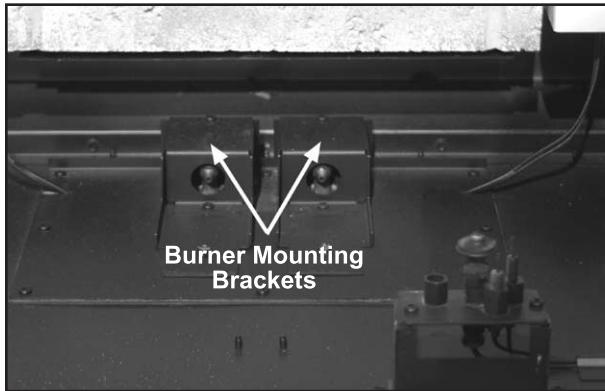
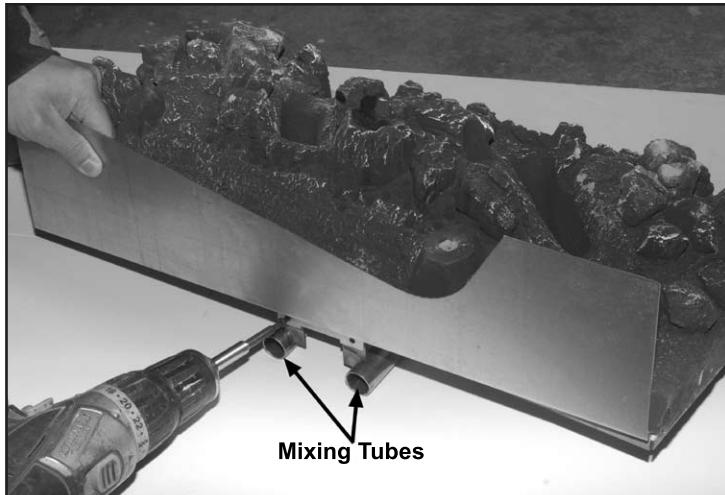
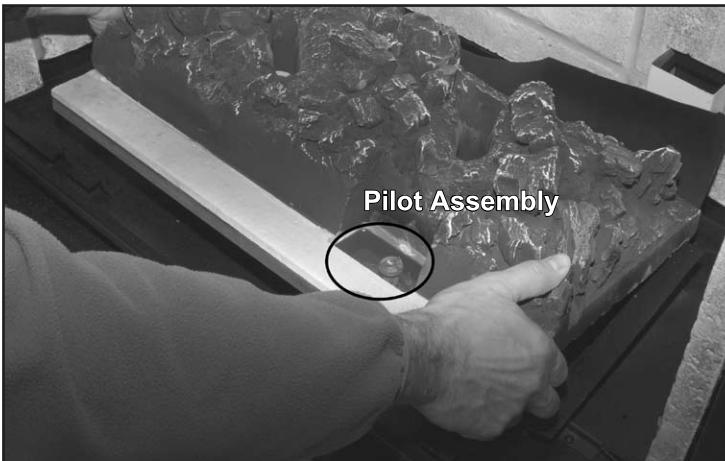
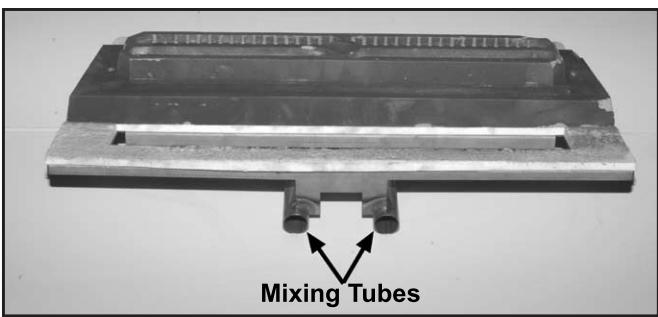

Figure 68: Burner Mounting Brackets.
Figure 67: Installing Rear Burner Shield.
Figure 69: Log Burner Over Pilot Assembly.
Figure 85: Mixing Tubes in Glass Burner.
1. Use the two (2) T-20 screws provided; install the rear burner shield onto the back of the burner. The mounting holes are just above the mixing tubes at the rear of the burner, refer to Figure 67.
2. In the bottom rear of the firebox there are two (2) gas orifices in a housing that facilitate the air shutter mechanisms and the Burner Mounting Brackets are above them (See Figure 68). There are two (2) mixing tubes underneath the back of the burner (see Figure 67). Lift the burner into the firebox with the back of the burner tilted downward. Keep the burner high enough at the front to clear the pilot assembly. Line up the mixing tubes with the holes in the burner mounting brackets and slowly lower the front of the burner over the pilot assembly (see Figure 69).
1. In the bottom rear of the firebox there are two (2) gas orifices in a housing that facilitate the air shutter mechanisms and the Burner Mounting Brackets are above them (See Figure 68). There are two (2) mixing tubes underneath the back of the burner (see Figure 85). Lift the burner into the firebox with the back of the burner tilted downward. Keep the burner high enough at the front to clear the pilot assembly. Line up the mixing tubes with the holes in the burner mounting brackets and slowly lower the front of the burner over the pilot assembly (see Figure 86).